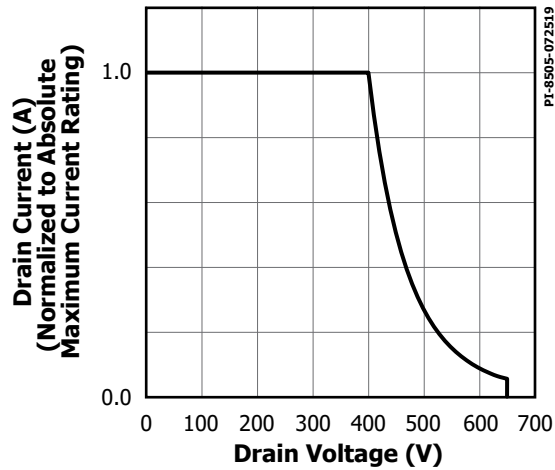

Figure 8. Maximum Allowable Drain Current vs. Drain Voltage.
3. Please refer to Figure 8 about maximum allowable voltage and current combinations.